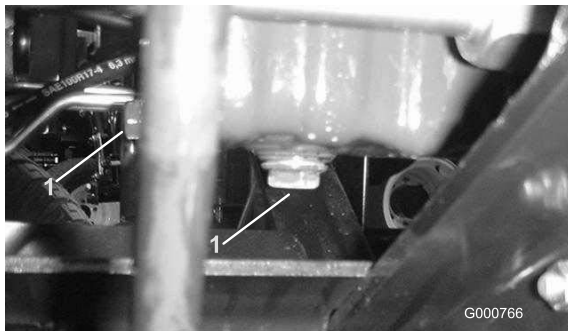

Figure 55
1. Remove drain plug (Figure 55) and let oil flow into drain pan. When oil stops, install drain plug.